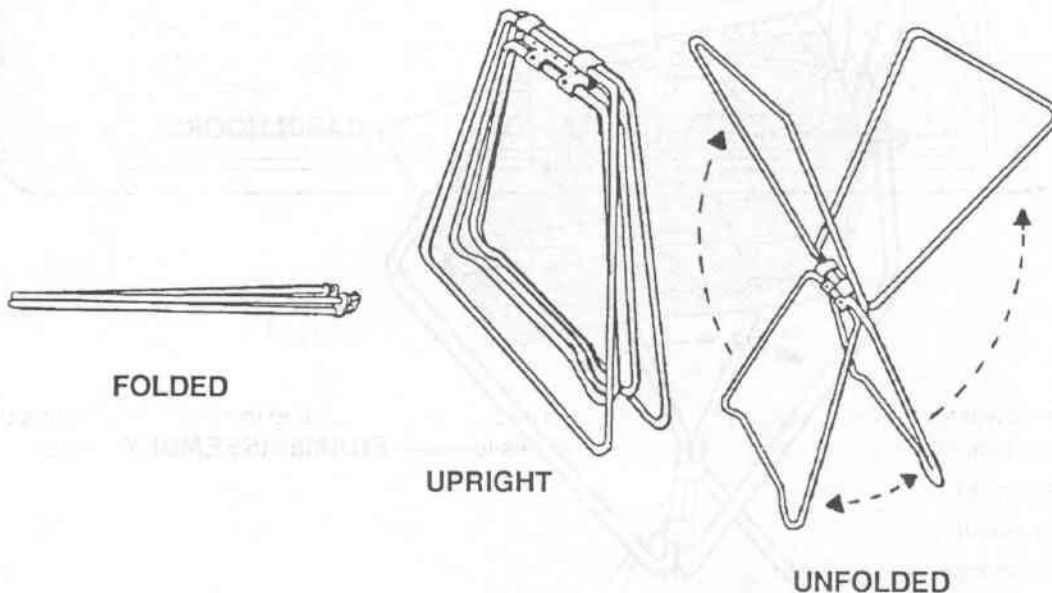

Figure 2-4. Frame assembly.
a. Unfold the frame assembly by moving both sets of legs in an arc. Position the short legs on the floor or ground and position the long legs in an upward direction as illustrated in figure 2-4.